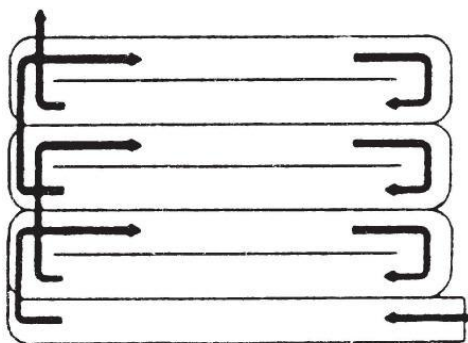

Figure 15
- Where possible, we recommend that you till in a pattern similar to that shown in **Figure 15**.